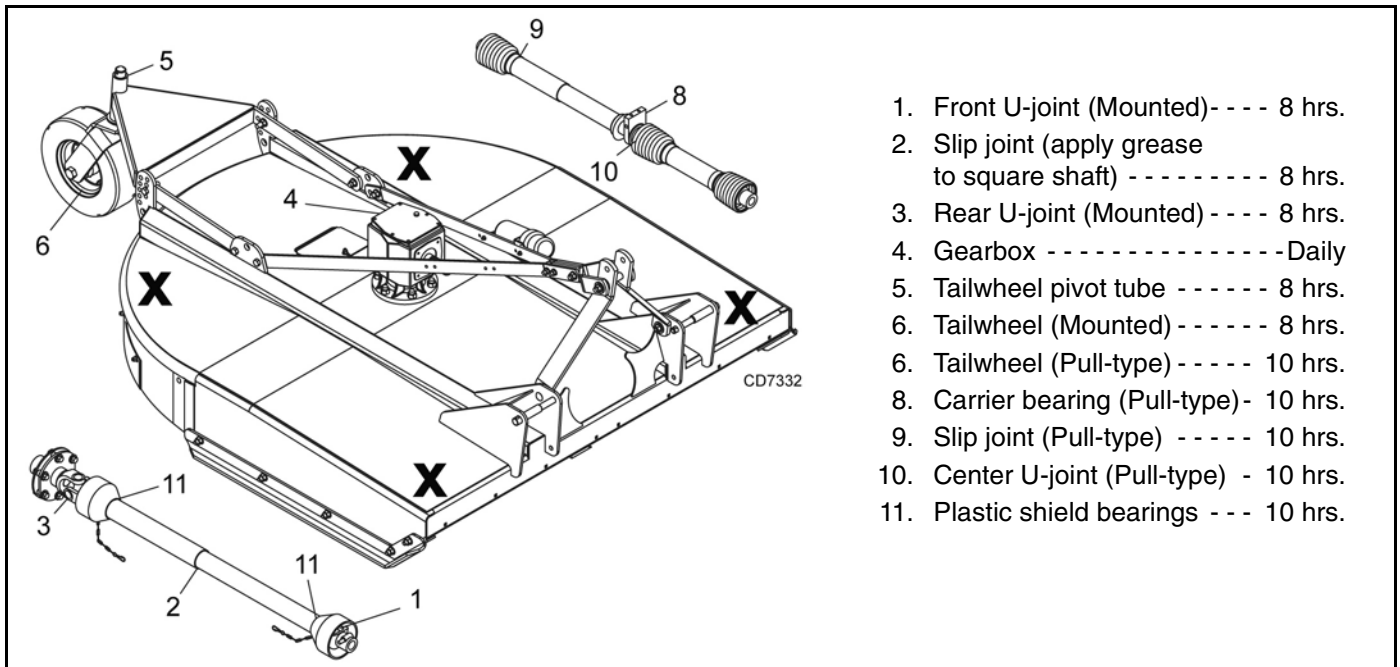

Figure 11. Jackstand Placement and Lubrication Points
1. Jackstands with a load rating of 1000 lbs or more are the only approved blocking device for this cutter. Install a minimum of four jackstands (shown by Xs in Figure 11) under the cutter before working underneath unit.
See Figure 11 for lubrication points and frequency or lubrication based on normal operating conditions. Severe or unusual conditions may require more frequent lubrication.
■ If blade pin (1) is seized in crossbar and extreme force will be needed to remove it, support crossbar from below to prevent gearbox damage.
2. Raise cutter and block securely (see Figure 11).
3. Open blade access cover and align crossbar assembly (3) with blade access hole in the cutter frame. Remove cap screw (8) blade pin lock clip (7) keyhole plate (6) and shims (5 & 4). Carefully drive blade pin out of crossbar.